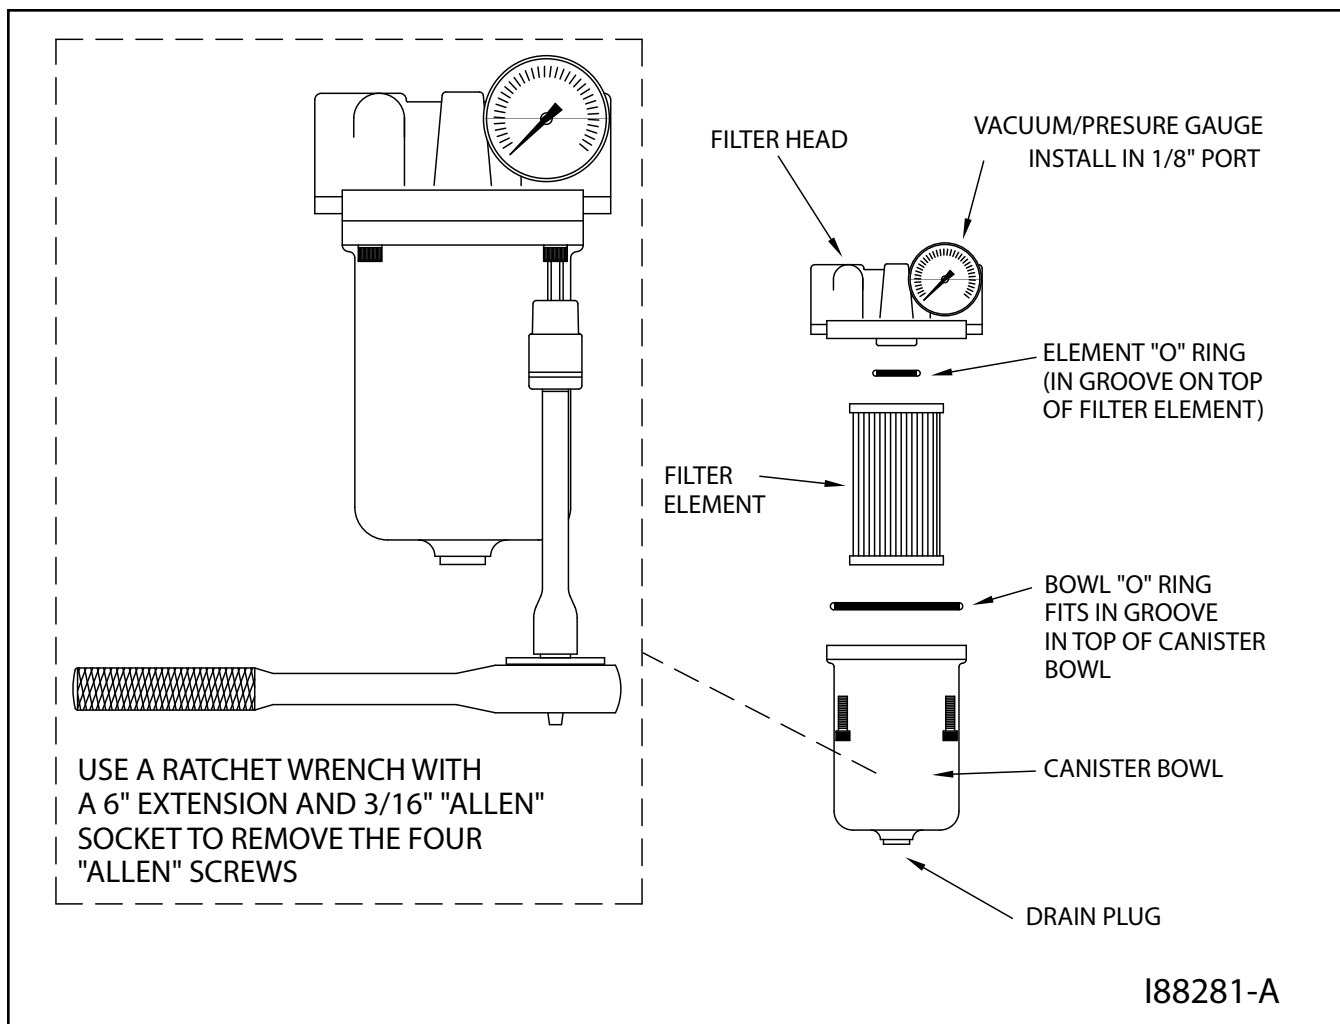

Figure 9A - Canister Filter Component Detail
5. Referring to Figure 9A, check the condition of the O-rings. Replace any that are cracked or worn.